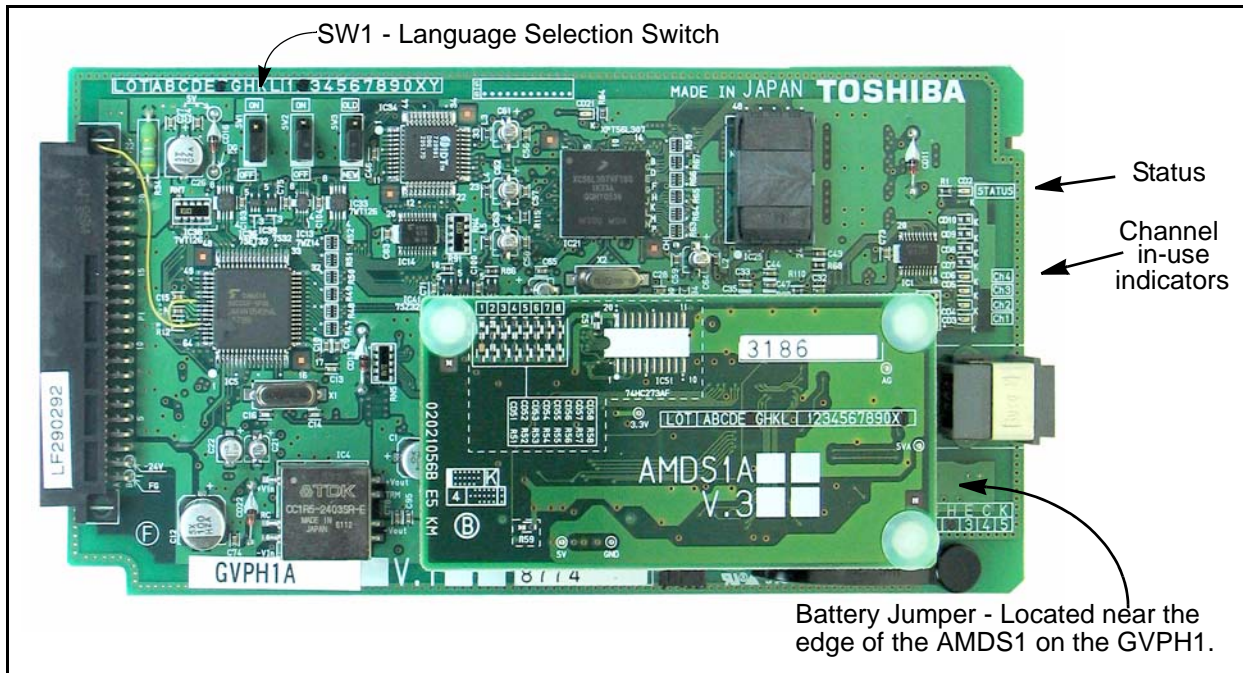

Figure 1-16 GVPH1 Card (Earlier Version shown)
2. If applicable, set SW6 battery jumper to ON and install the GVPH1 voice mail card (Figures 1-16).
4. Set the SW6 battery jumper on the GVPH1 to ON and set the Greeting language switch. Refer to Figure 1-16. Default language is "English." See Table 1-11 for other language settings.